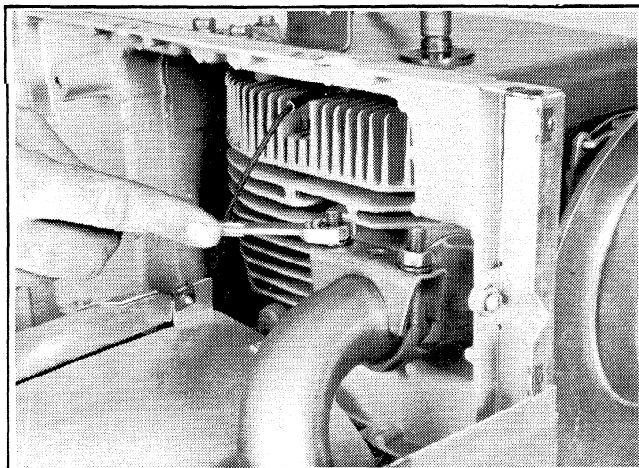

Figure 6-9. Exhaust Tube
7. Remove the exhaust tube (Figure 6-9).